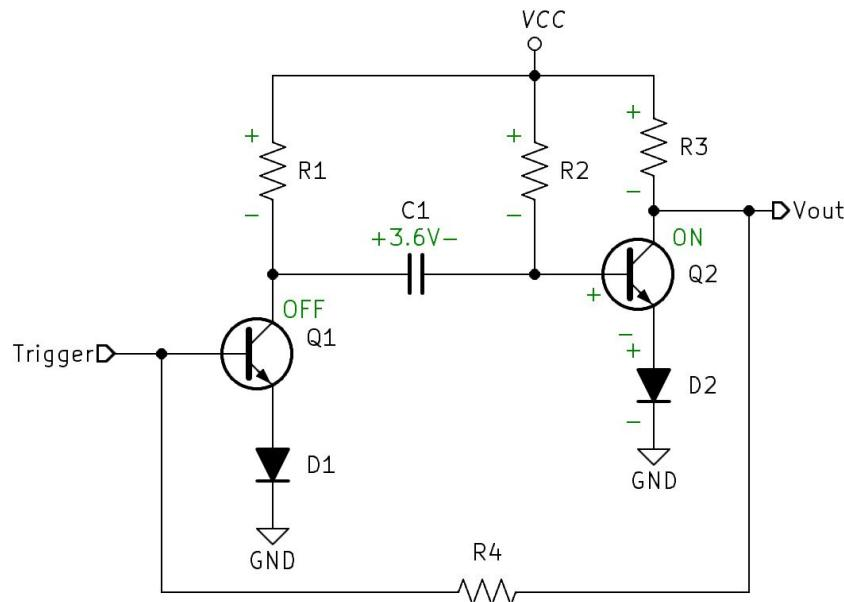

Figure 12.5: Bipolar Junction Transistor Monostable Multivibrator Stable State
- Stable State** Observe Figure 12.5. Q2 will immediately turn on due to the unrestricted base resistor R2. The current path for Q1 to turn on goes through R3 and R4. This means Q2 will turn on faster than Q1 and once Q1 is on it will take away VCC leaving only the 0.7 volts of D2 which will not be enough to bias on both Q1 and D1. This is the happy or stable state of the monostable and Vout is low.